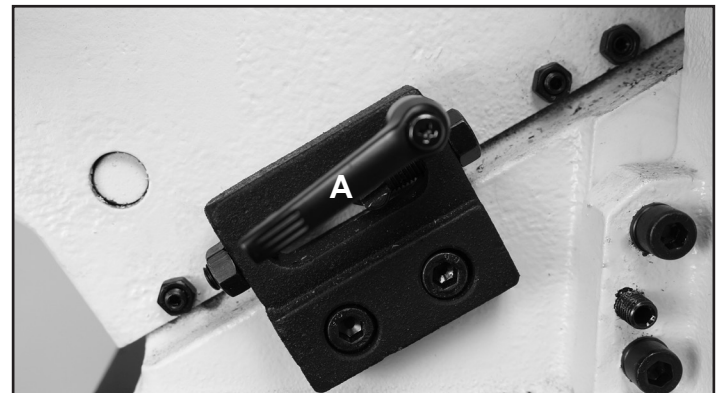

FIG. 34
6. Loosen the locking lever (A-FIG. 34) at the rear of the infeed table.